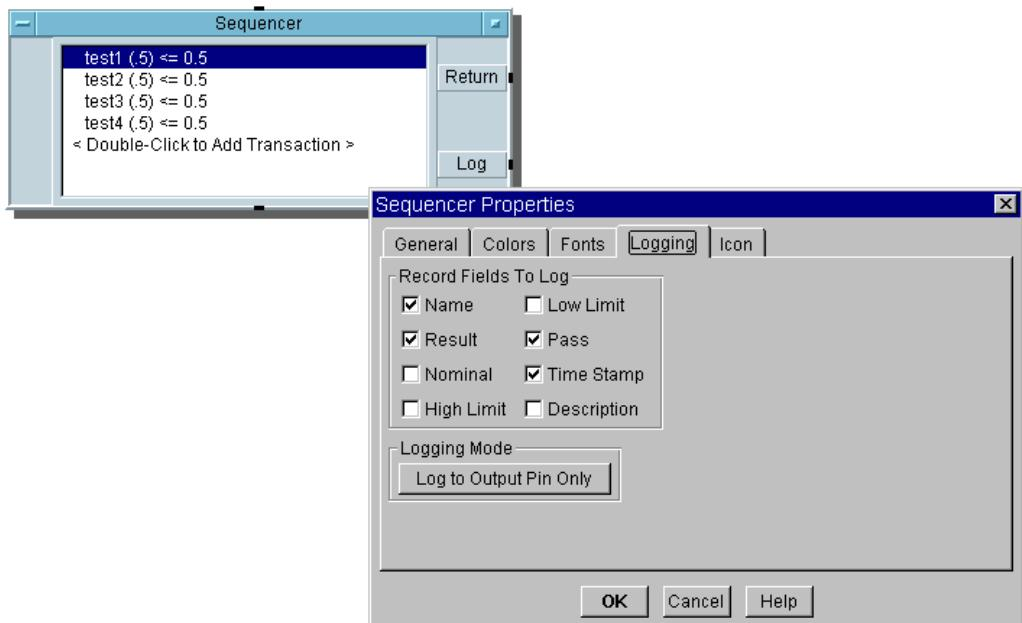

Figure A-34. Add a Time Stamp to the Logging Record
- **Adding a Time Stamp:** To add a time stamp, open the Sequencer object menu and select Properties ⇒ Logging tab to check Record Fields to Log ⇒ Time Stamp. Figure A-34 shows the Properties ⇒ Logging tab dialog.